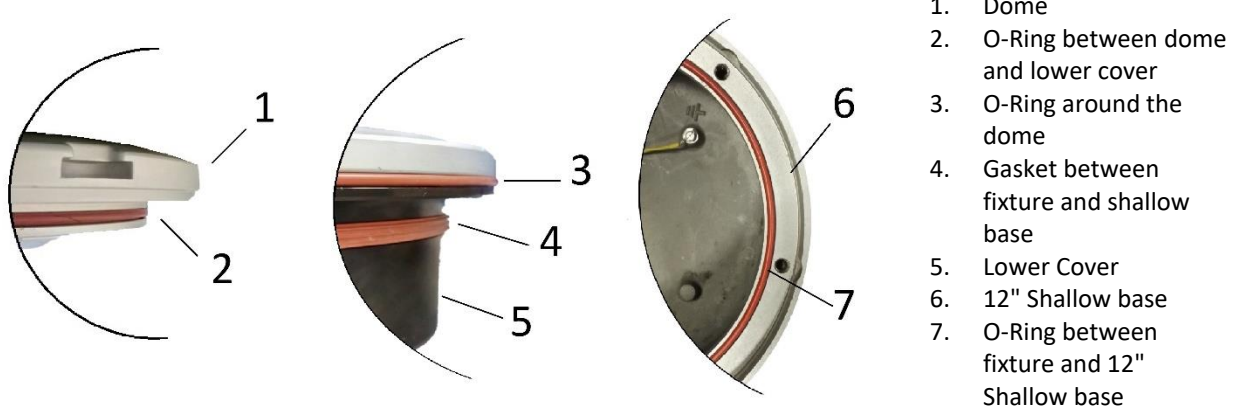

Figure 26– Fixture Gaskets
- O-Ring between dome and lower cover (Figure 26 - n°2);
- O-Ring around the dome (Figure 26 - n°3);
- Gasket between fixture and 8" shallow base (Figure 26 - n°4);
- O-Ring between fixture and 12" shallow base (Figure 26 - n°7);